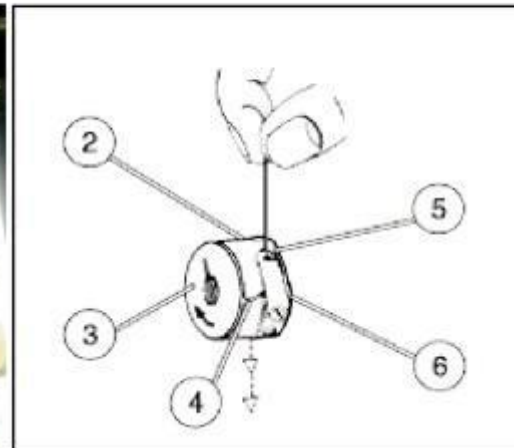

fig 12
- remove the bobbin case 2 containing the bobbin core 3 (fig.12);
2.5.3 Load the full bobbin (fig. 12)
The bobbin case with full bobbin core is slowly lowered by its dead weight (see figure 12) the role of brake spring 1 is to prevent the bobbin from continuing to rotate after automatic shearing,